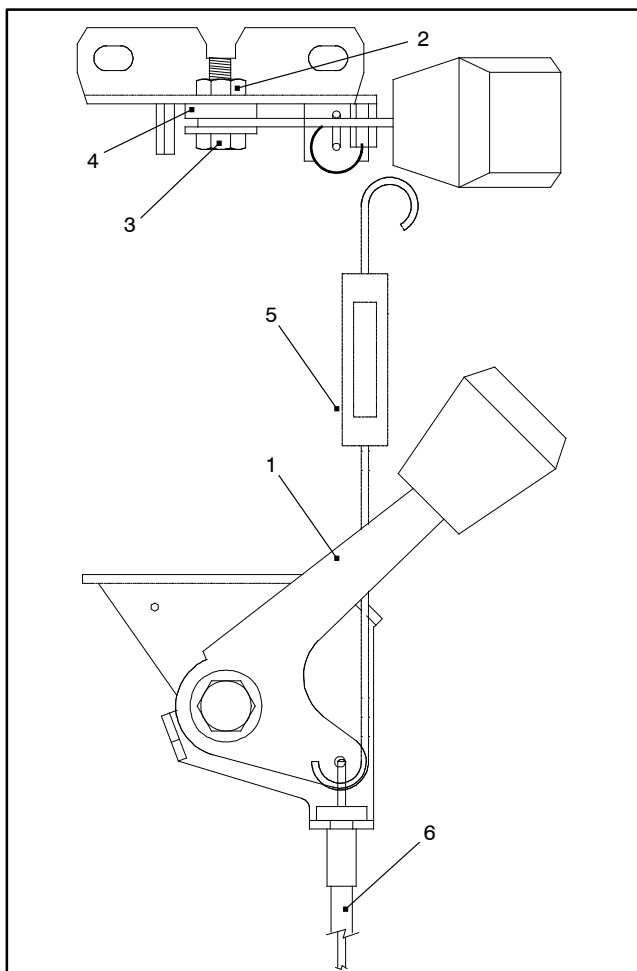

Figure 7
**Note:** Attach spring scale where the throttle cable is attached to the control lever (Fig. 7).
7. If throttle control lever does not stay in position during operation, torque lock nut and cap screw used to tighten the friction disc from 40 to 55 in-lb (4.5 to 6.2 N-m). The force required to operate the throttle control lever should be 20 lb (89 N). Torque fasteners as necessary (Fig. 7).